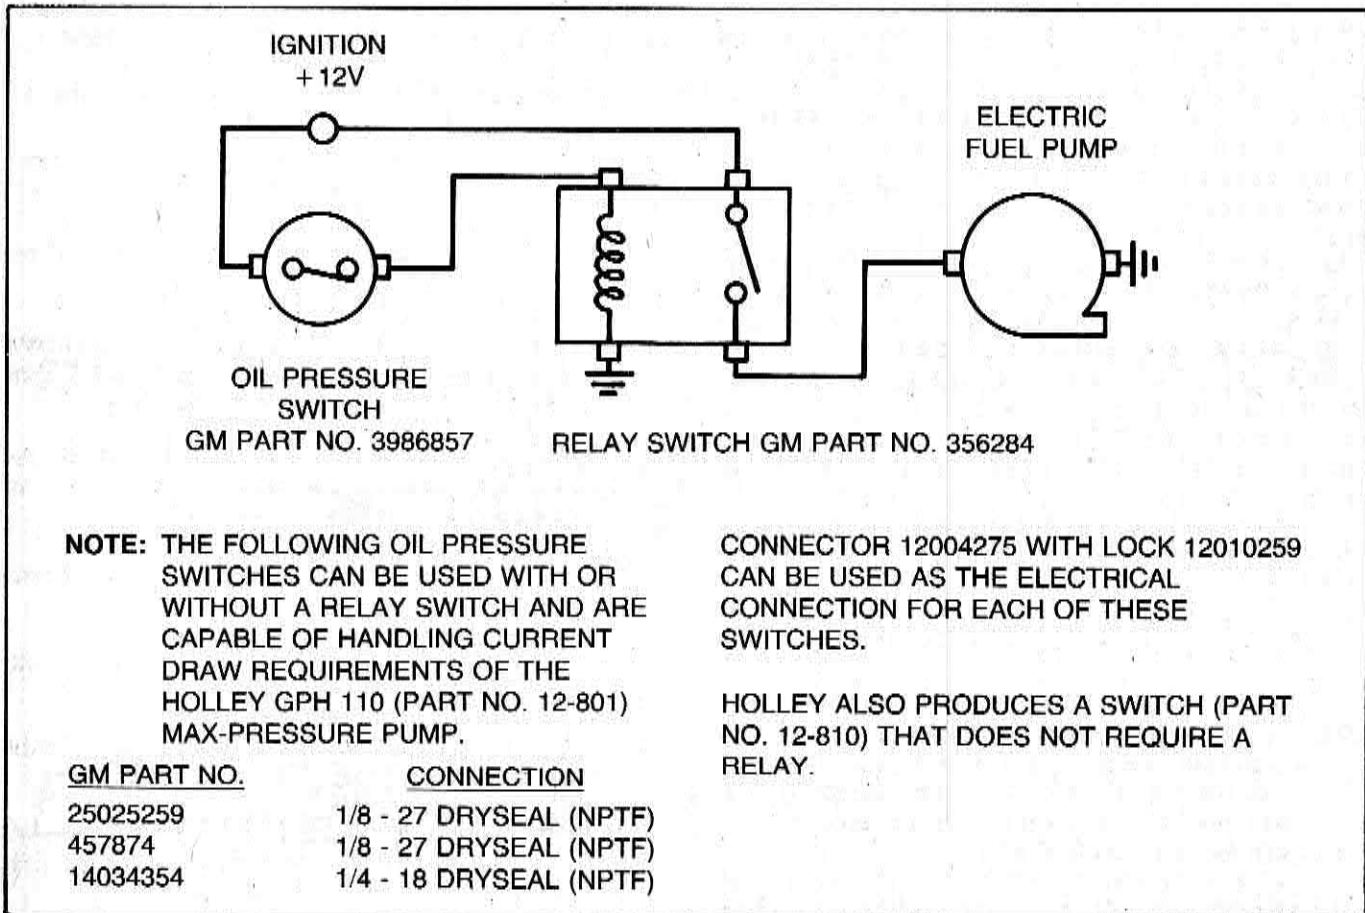
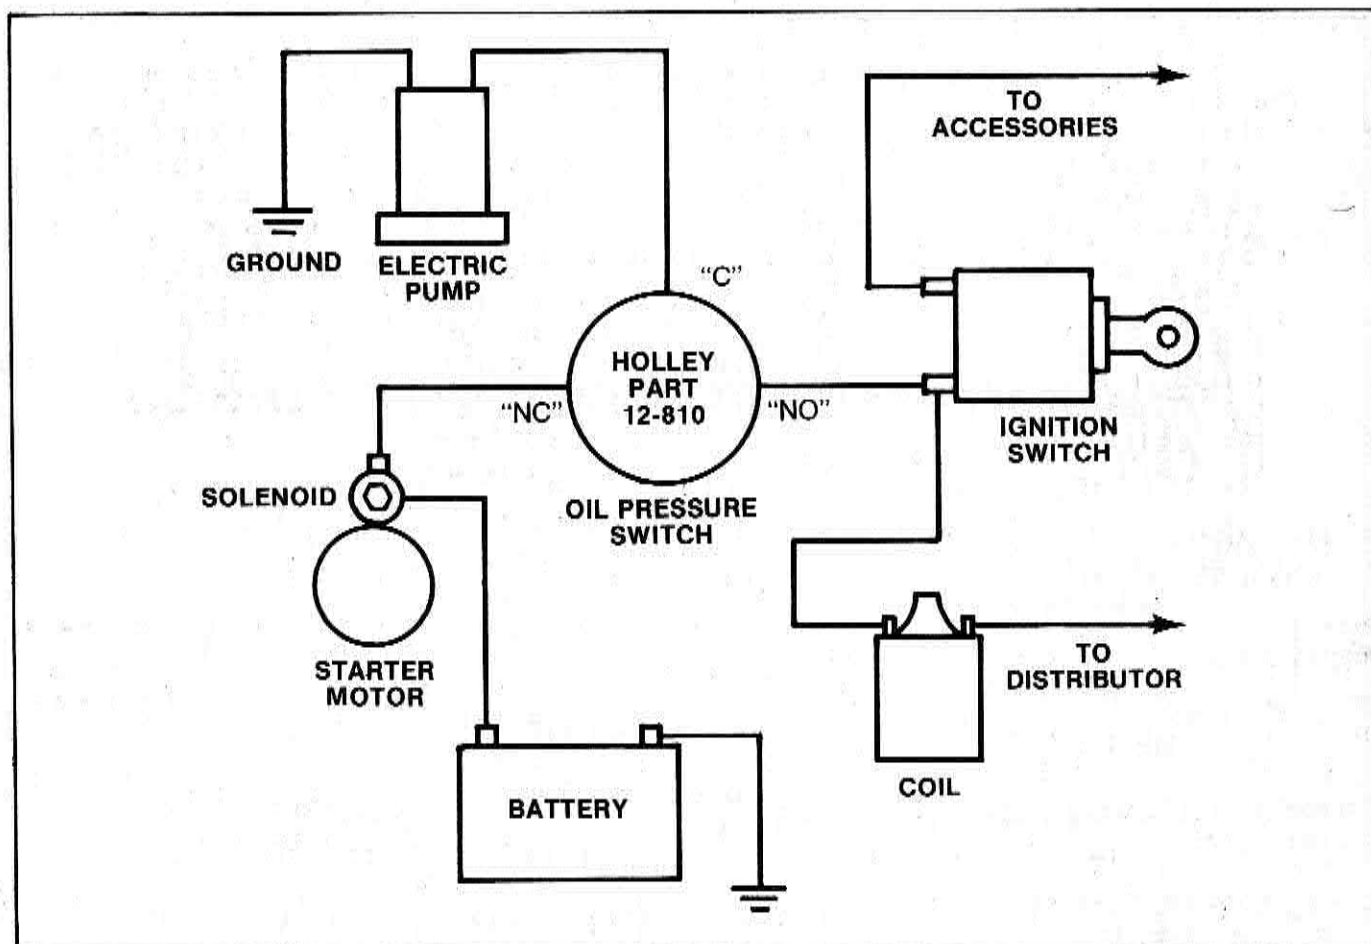

Figure A7-7-3 — Electric Fuel Pump/Oil Pressure Switch Relay
Figure A7-7-4 — Oil Pressure Switch — Typical Wiring Diagram
- Power for the electric fuel pump should be controlled through a relay or special oil pressure switch to assure shut-down in the event of vehicle upset (see Figure A7-7-3). Consideration could be given to a manual priming override in the event the system has totally run out of fuel. Normal starts would occur with the fuel remaining in the carburetor and upon starting as oil pressure came up the special switch or relay and would turn on the electric pump. (See installation instructions in Figure A7-7-4.)
If the pump does not operate, and a vibration is not felt, check the fuel pump relay system wiring (see page 7-43 and 7-96 for location). Check electrical continuity from electric fuel pump relay (Fig. A7-7-3) to oil pressure switch and from oil pressure switch to electric fuel pump.